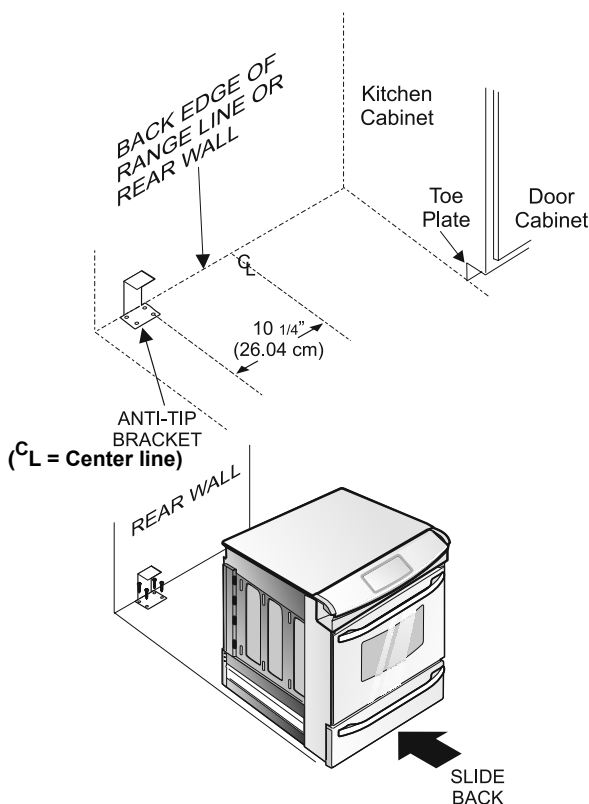

Figure 8
1. Draw a center line (CL) on the floor where the range should be installed. Also draw a line on the floor at the range back position if there is no wall.
2. Unfold paper template and place it flat on the floor with the right rear corner positioned exactly on the intersection of the center and back lines you just drew before. (Use the diagram below to locate brackets if template is not available. (Figure 8))